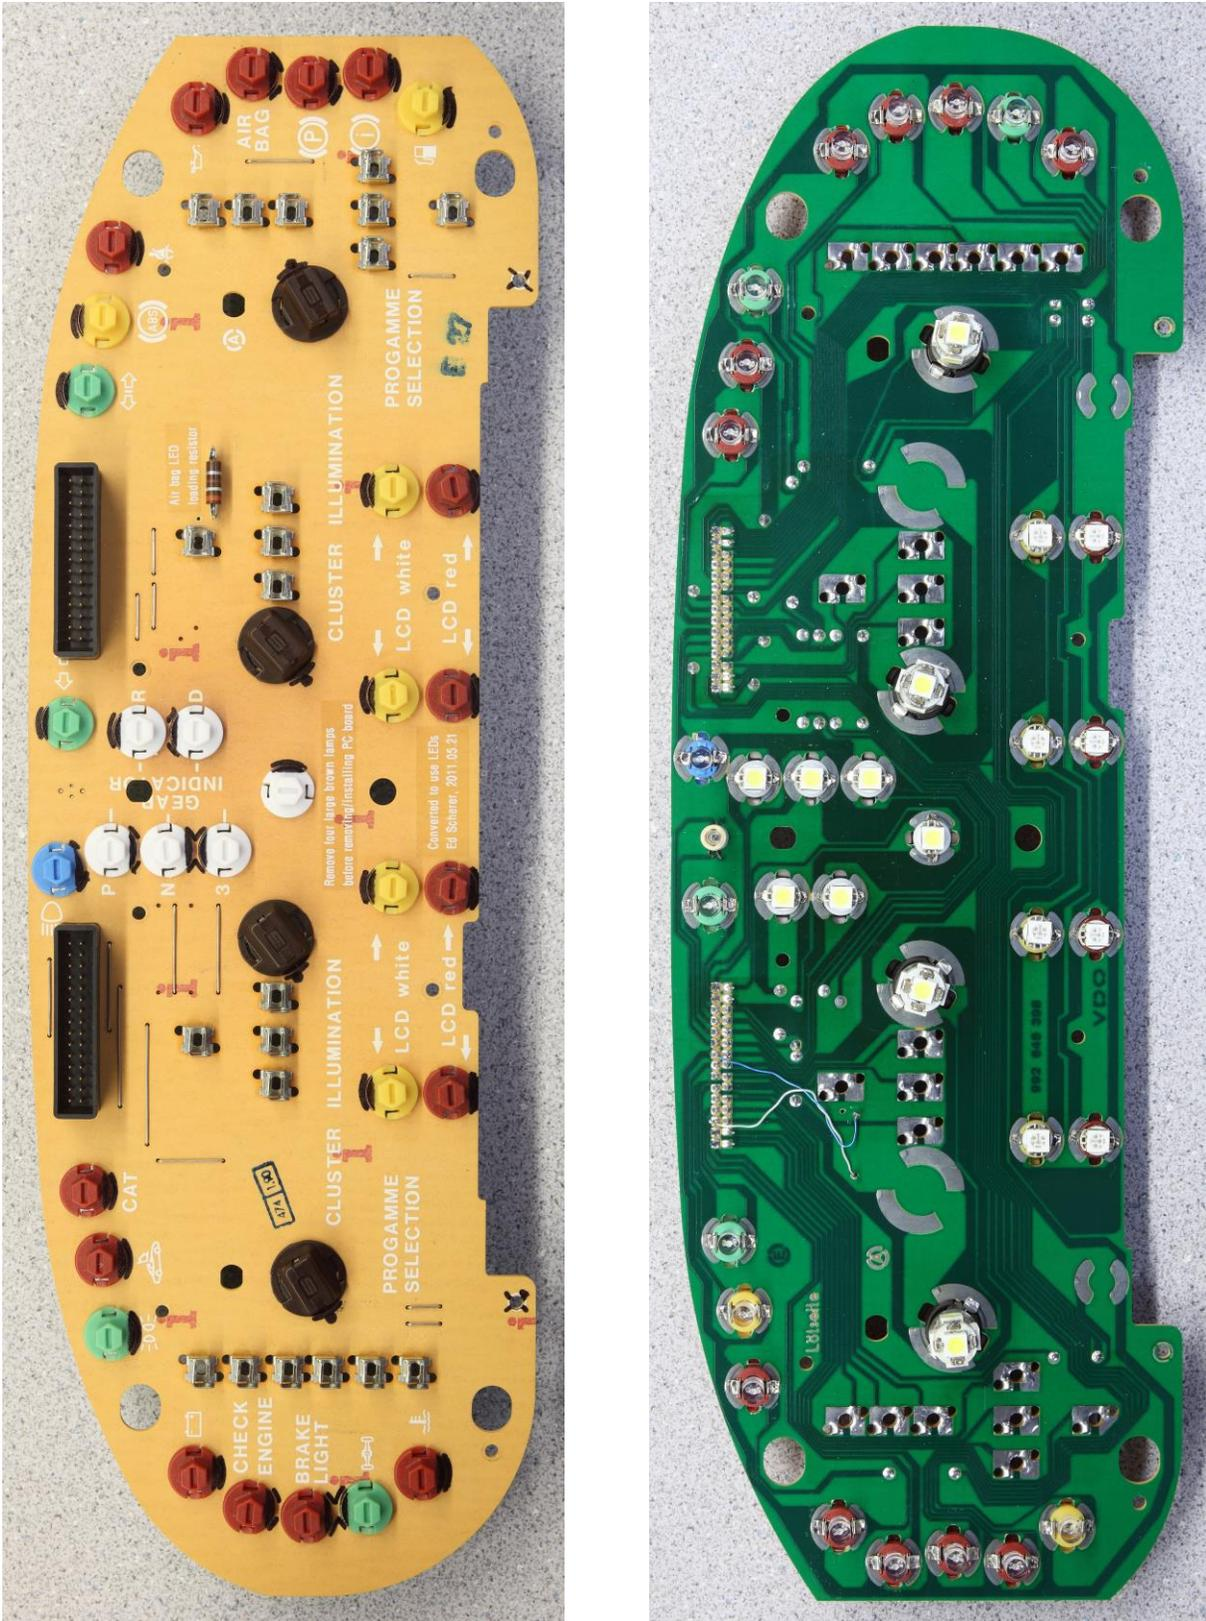

Figure 21: Back and front of PC board after LED replacement; black marks Indicate LED cathode (low/ground) side
Figure 21 shows the polarities of the holes for each of the bulb positions (holes for the twist-lock bulbs) on the PC board.
Insert each bulb through the hole such that when you twist 90°, the polarities will be correct, i.e., that your black mark on the LED will match up with the black marks on the PC board as shown in Figure 21. You may find that a socket screwdriver is the best tool: it can be turned and jiggled gently to work the bulb through the hole and then twist 90° to seat it.
At some point, you should mark the polarities of each bulb position on the PC board as shown in Figure 21.
- you observe the correct polarity as you have marked on each bulb and as shown in Figure 21;
- As shown in Figure 21, use some tape to attach the aluminum spacers, plastic/rubber bushings, and the washer for the left end of the instrument cluster. This holds those components together, reducing the likelihood that you will have problems with this part of reassembly.
In Figure 21, you'll note some additional labels and markings (beyond the polarity markings at each bulb position, already recommended in an earlier section of this document) that have been added to the PC board: